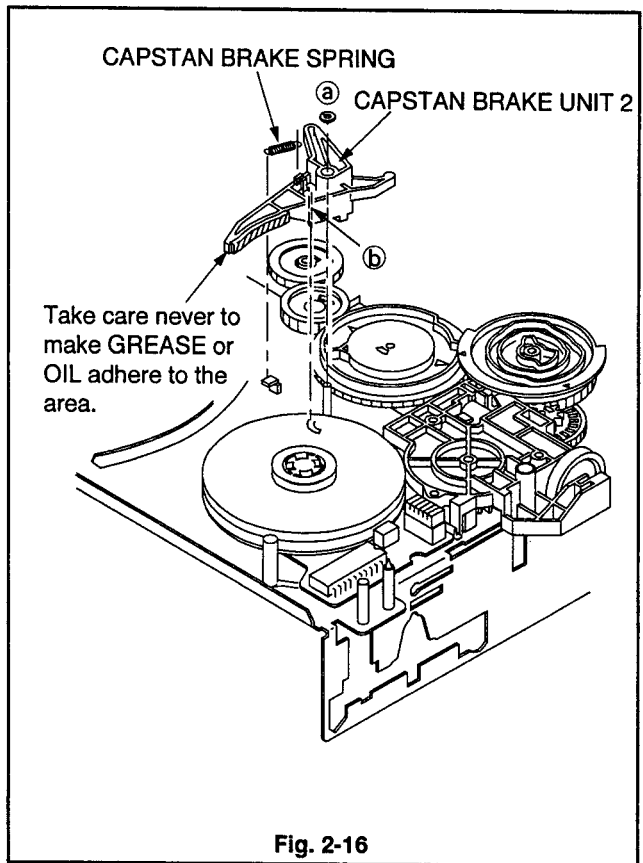

Fig. 2-16
1. Remove the CAPSTAN BRAKE SPRING shown in Fig. 2-16.
2. Remove the CUT WASHER (a) fastening the CAPSTAN BRAKE UNIT 2 shown in Fig. 2-16.
3. Use tweezers to unfasten Catch (b) on the surface of the CAPSTAN BRAKE UNIT 2 shown in Fig. 2-16, and remove the CAPSTAN BRAKE UNIT 2.
1. Install the CAPSTAN BRAKE UNIT 2 shown in Fig. 2-16.
Note : Do not get GREASE or OIL on the area specified in Fig. 2-16 during installation of the CAPSTAN BRAKE UNIT 2.
2. Install the CUT WASHER (a) shown in Fig. 2-16 to fasten the CAPSTAN BRAKE UNIT 2.
3. Install the CAPSTAN BRAKE SPRING shown in Fig. 2-16.